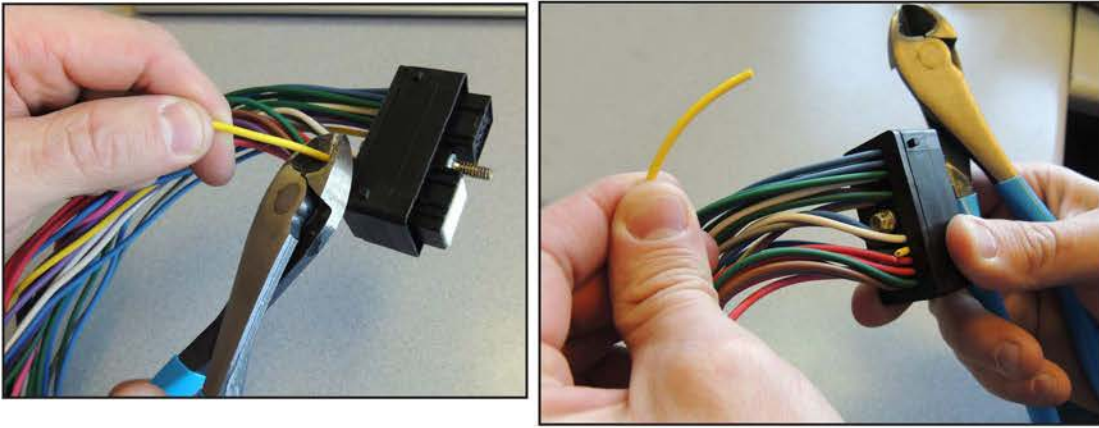

Figure 3: Cut the wire off the connector as close to the connector as possible.
6. Use a wire cutter to cut the wire off as close as possible to the connector (Figure 3).